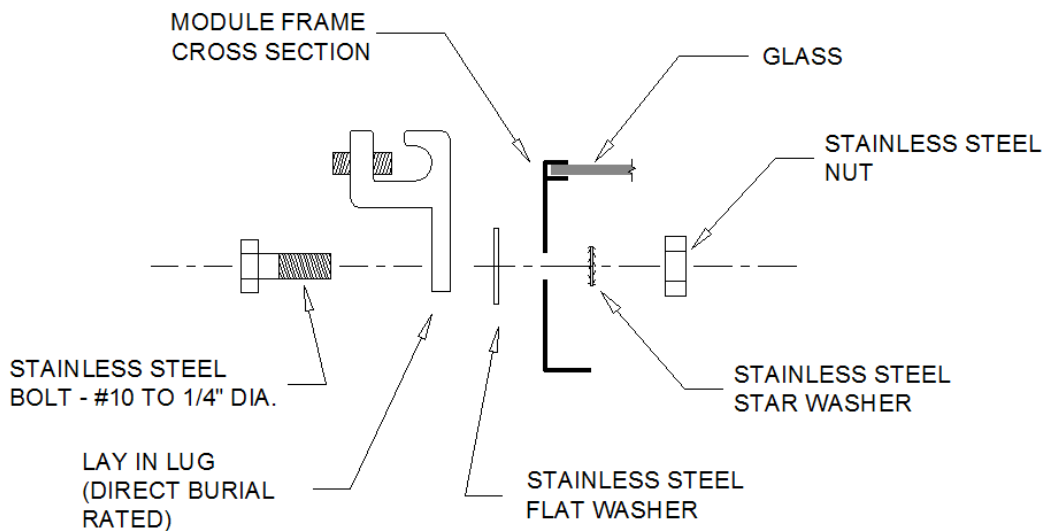

Figure 7 – Mounting a Lay-in Lug
2. You may mount a lay-in lug such as the one shown in the illustration. Be sure to use a lay-in lug that is UL listed for direct burial. You will need SS hardware – a bolt, flat washer, star washer and nut – to complete the assembly. See Figure 7 for an illustration of this assembly.